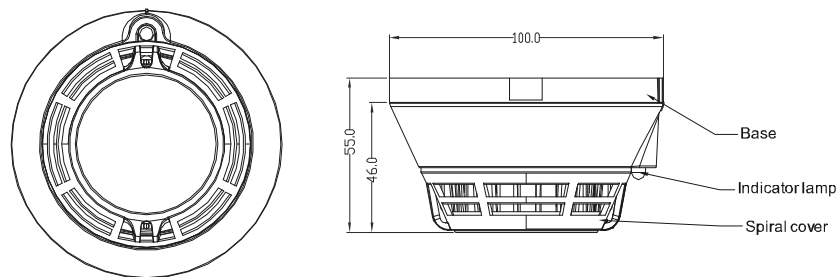
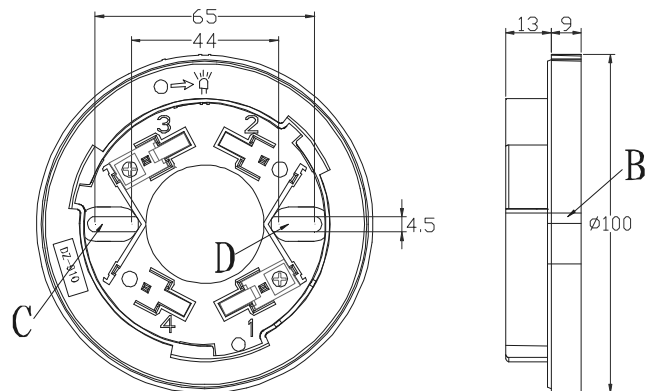

Fig. 1
Fig. 5
IV. Appearance and outside dimensions of product (as shown in Fig. 1)
Each detector shall be installed using a matched base. The matched base is shown in Fig. 5, its model number is DZ-910, its outside dimensions are $\Phi 100$ mm \times 22 mm (diameter \times thickness), its fixing hole diameter is $\Phi 4.5$ mm and its fixing hole spacing is 44-65 mm.
2. Fix a matched base to the specified position through fixing holes C and D shown in Fig. 5 using two M4 screws according to the construction drawing and confirm that the base has been securely installed;
5. Align the indicator lamp of the detector (place A shown in Fig. 1) with the installation mark on the base (place B shown in Fig. 5) and then insert the detector into the base and rotate the detector clockwise until the detector is locked in position;